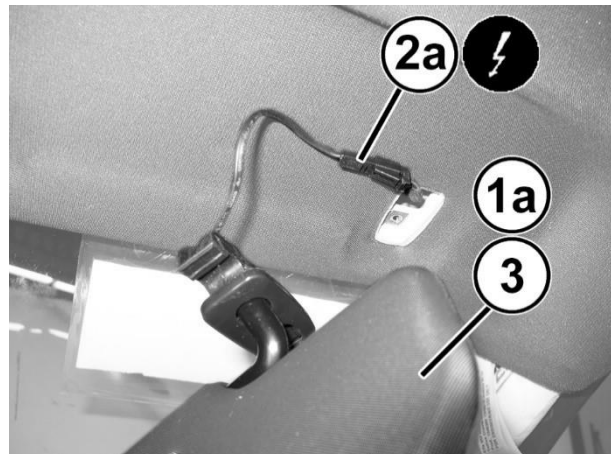

Figure 9 – Sun Visor Electrical
27. Release and lower the sun visor (1a) (Figure 9).
28. Disconnect the electrical connection (2a) of the sun visor after removing its foam covering (Figure 9).
29. Remove the sun visor (3) (Figure 9).